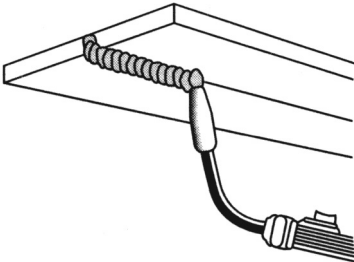

Figure 17. Overhead Position
4. The OVERHEAD POSITION (Figure 17) is the most difficult welding position because gravity is pulling at the weld puddle trying to make it drip off the work piece. Angle A (see HOLDING THE TORCH - p.15) should be maintained at 60 degrees, the same as in the flat position. Maintaining this angle will reduce the chances of molten metal falling into the nozzle should it drip from the weld puddle. Angle B should be held at zero degrees so that the wire is aiming directly into the weld joint. If you experience excessive dripping of the weld puddle, select a lower heat setting. Also, the weave bead tends to work better than the stringer bead when welding overhead.